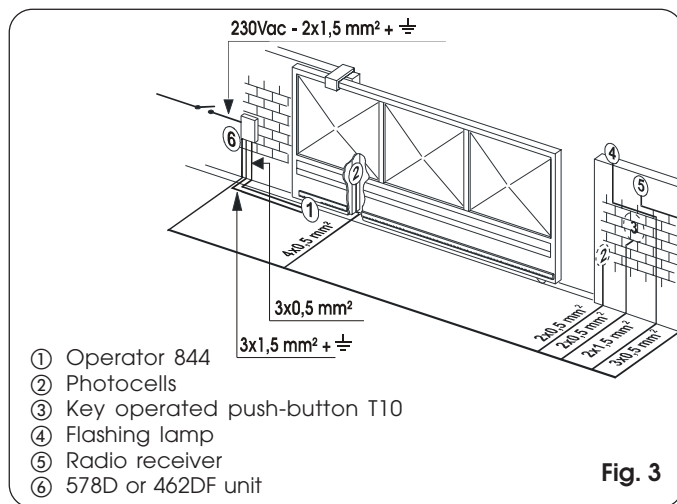

Fig. 3
- 4) Lay the electric cables for connection to the accessories and the electric power supply as shown in Fig. 3 or 3A: To facilitate making the connections, make the cables come out by about 40 cm from the foundation plate hole (Fig. 5-6 ref. ①).